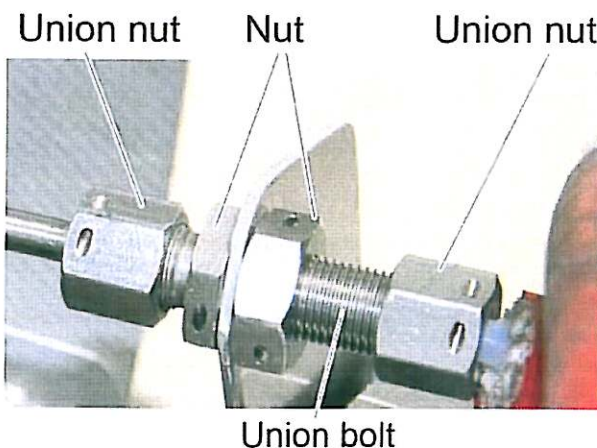

Figure 5
7. *Guide the hollow union bolt of the de-icing nozzle through the hole in the bracket. Attach the right hand nut to the hollow union bolt. After aligning the de-icing nozzle correctly, tighten up the nut. See Figure 5.*
8. *Using the union nut on the right hand side, attach the hose line for the de-icing fluid to the hollow union bolt. Tighten up the union nut. See Figure 5.*
9. *While constantly twisting the securing wire, guide it through the holes of the union nut, both nuts and the other nut at the hollow union bolt of the de-icing nozzle. See Figure 5.*